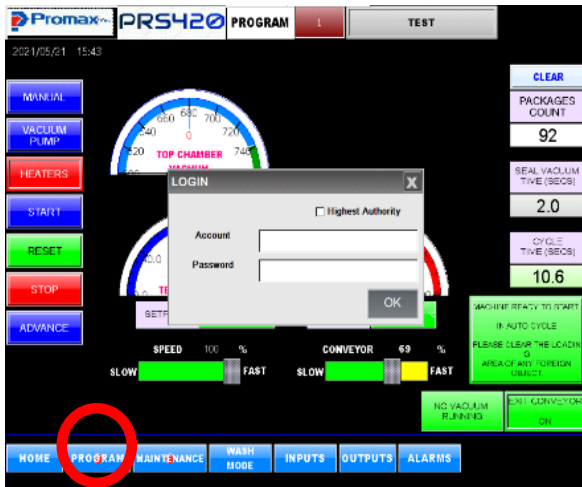

Fig.OP-5.23
-Press the PROGRAM button on the left side of the home screen (Fig. OP-5.23) and a password screen will appear.